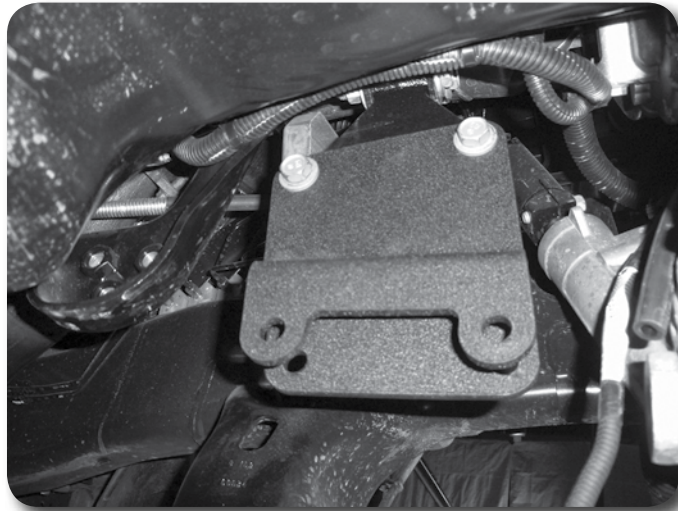

Figure. 14
33. Install the two front driver's side differential drop brackets so that the bracket with the small offset is toward the outside of the vehicle (offsetting out) and the one with the bigger offset is on the inside (offsetting in). The brackets should drop more at the front of the vehicle. Fasten the brackets to the frame with two 1/2" x 2-1/2" bolts, nuts and 1/2" SAE washers. Leave hardware loose. **Figure 14**